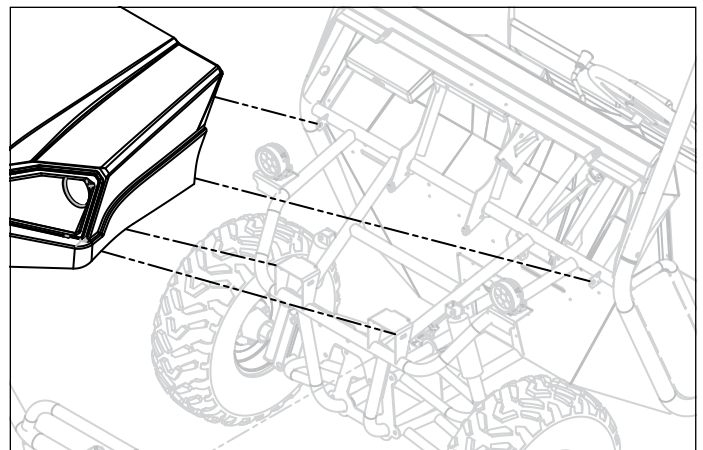

figure 4.14 (hood removal)
1. Using 1/2" wrenches, remove the (2) front hood fasteners and the (2) rear fasteners as shown in Fig 4.14.